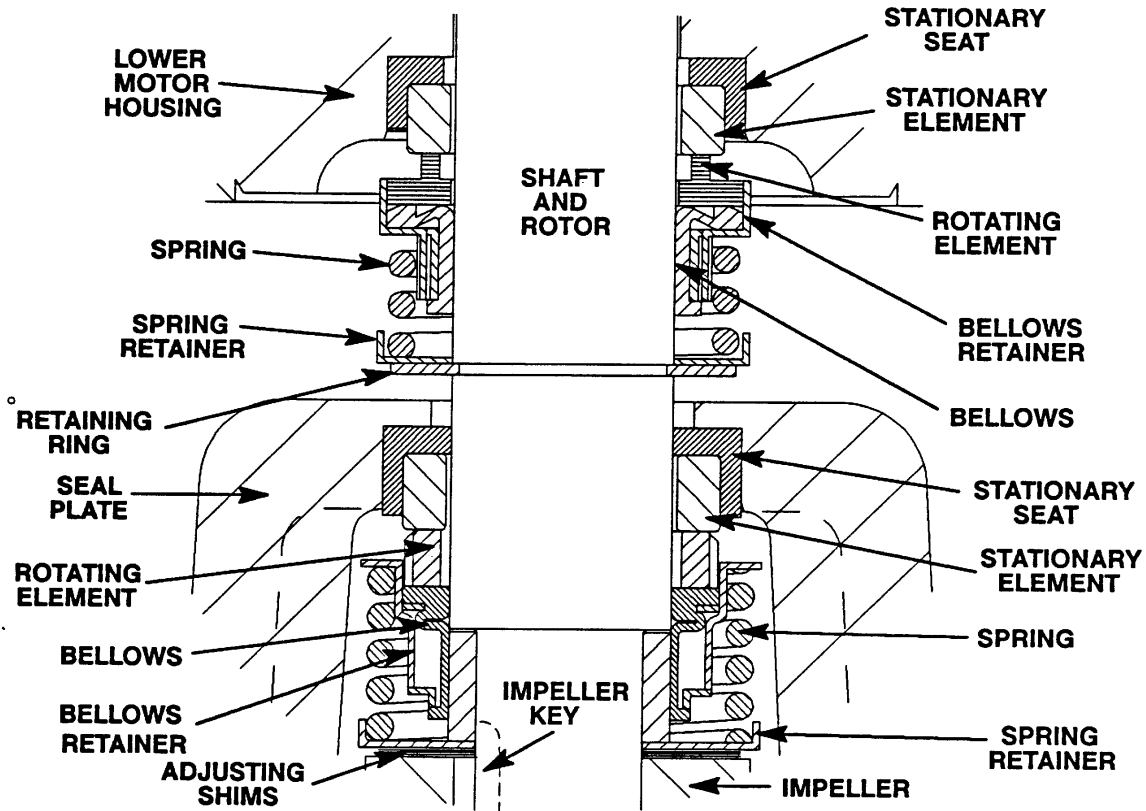

Figure 3. 46512-057 (Lower) And 25271-866 (Upper) Seal Assemblies
Install the shaft seals as illustrated in Figure 3.
Slide the seal spring over the shaft and bellows retainer, and install the spring retainer (32). Install the seal retaining ring (5). See Figure 3 for proper order of seal assembly.
Slide the seal spring over the shaft and bellows retainer. See Figure 3 for proper order of seal assembly.